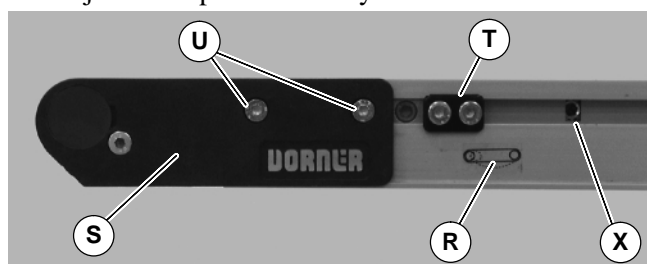

Figure 37
1. On tension end of the conveyor, identified with a  label (R of Figure 37), adjust head plate assembly (S): On both sides of conveyor, loosen fastening screws (U) and rotate pinion gear (X) to adjust head plate assembly.
2. Adjust head plate assembly so end of conveyor frame aligns with first tensioning mark (BR of Figure 38). Tighten fastening screws (U of Figure 37) on both sides of conveyor to 7 Nm.
3. If equipped with cam tracking assemblies (T of Figure 37), reposition against head plates and adjust belt tracking. Refer to “Conveyor Belt Tracking”, page 16.